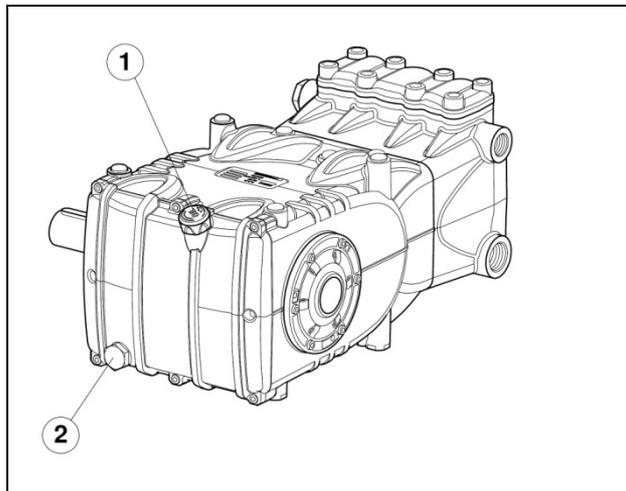

fig. 1
To remove oil, you must remove: the oil dipstick, pos. ① and then the plug, pos. ② , fig. 1.